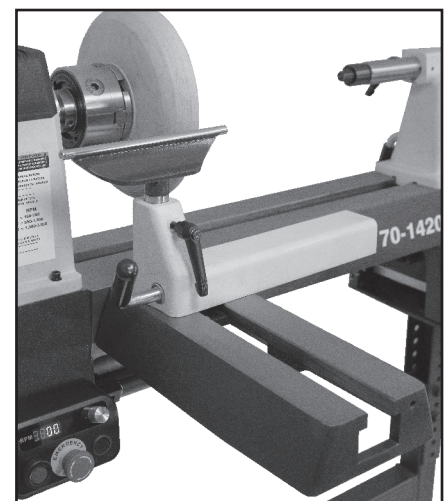

FIG. 10
- **#70-903** Installing the 13-1/2" Bed Extension to the lathe front allows the positioning of the tool rest for improved access to turning and finishing the sides and backs of workpieces. FIG. 10.